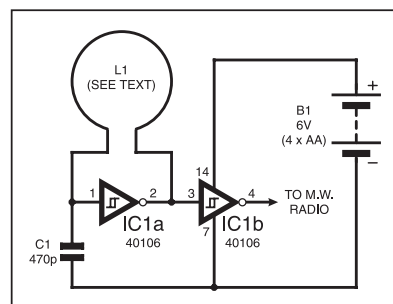

Fig.1. Three-component Metal Detector circuit.
THE circuit shown in Fig.1 must represent the limits of simplicity for a metal detector – yet the design works surprisingly well. It uses just one 40106 hex Schmitt inverter i.e., a capacitor, and a search coil – and of course the batteries. A lead from IC1b pin 4 needs to be attached to a medium wave (MW) radio aerial, or it should be wrapped around the radio.